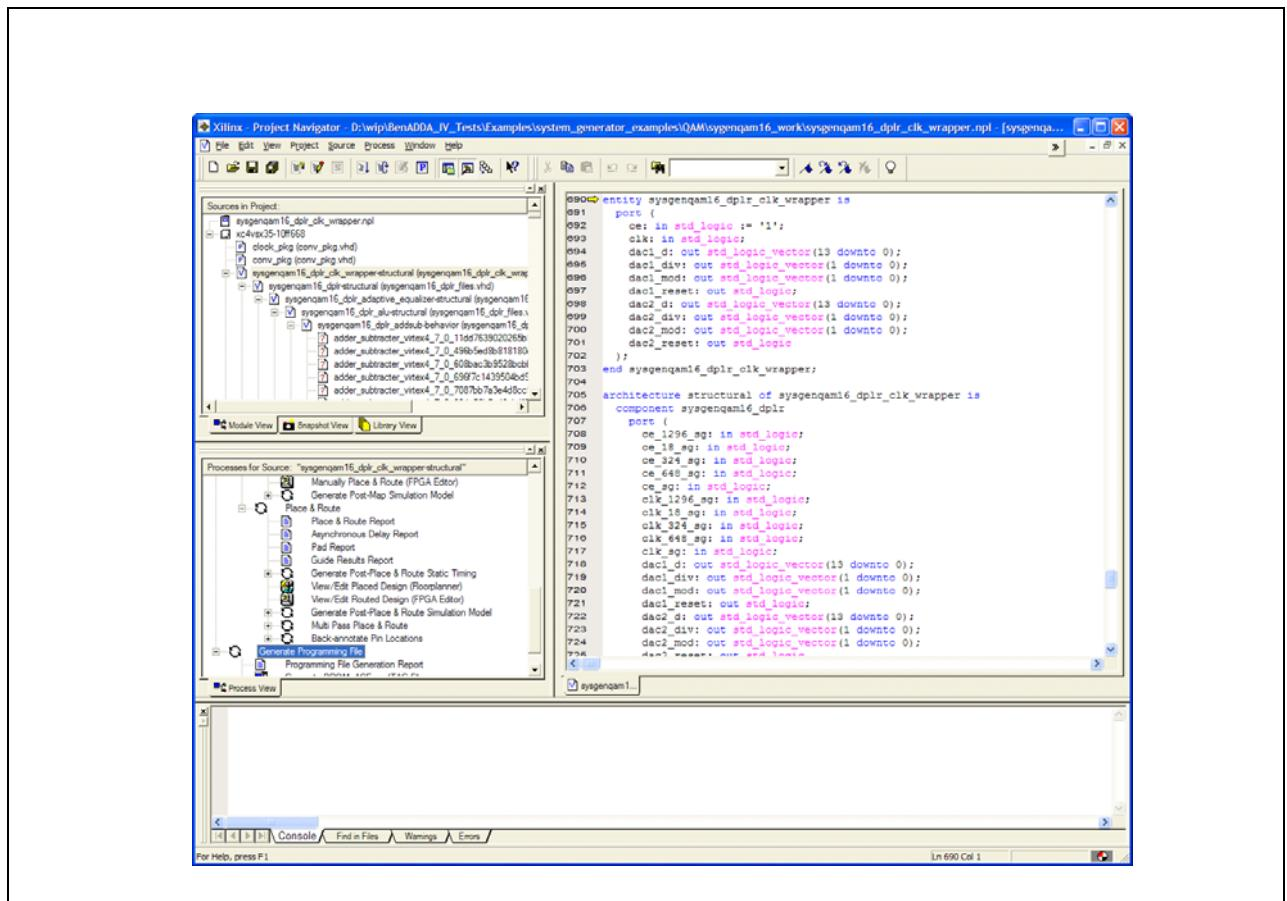

Figure 114: QAM Design in ISE Project Navigator
6. Now open the ISE Project Navigator file that has been created. The file will be located in the folder you selected as the target directory. The default is '\Examples\system_generator_examples\QAM\sygenqam16_work'. Open the file 'sysgenqam16_dpl_clk_wrapper.npl' within Xilinx ISE Project Navigator as shown in Figure 114 on page 196.